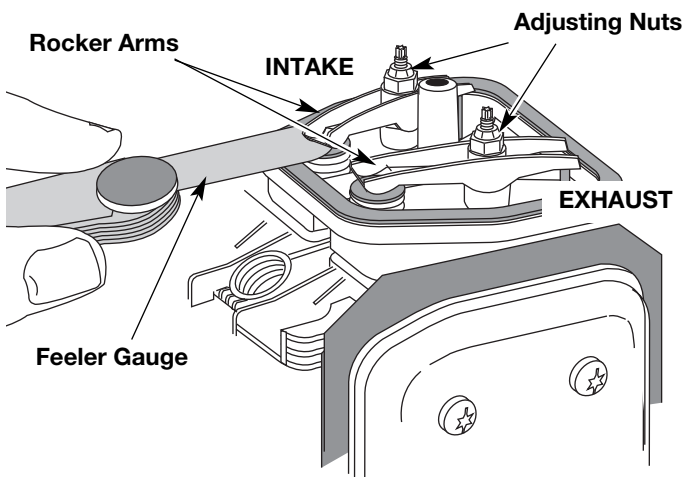

Fig. 37
9. Slide the feeler gauge between the rocker arm and the valve return spring. Measure the clearance between the valve stem and rocker arm (Fig. 37). Measure both the intake and exhaust valves.
The recommended clearance for both intake and exhaust is .003 – .006 in. (.076 – 0.152 mm). Use a standard automotive .005 in. (0.127 mm) feeler gauge. The feeler gauge should slide between the rocker arm and valve stem with a slight amount of resistance, without binding. See Figures 37 and 38.